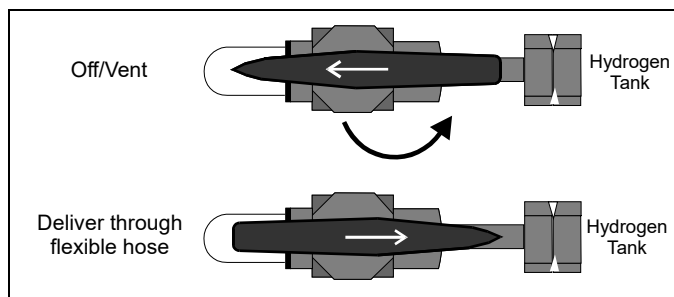

Figure 3 Refill Adapter 3-Way Valve
3. Turn the refill adapter 3-way valve so that it points away from the cylinder. See *Figure 3*.